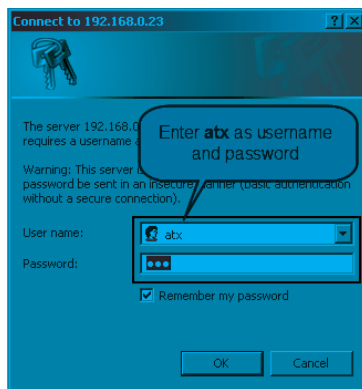

Figure 12-14: Login
2. When the login screen appears, enter **atx** for both the Username and Password, see Figure 12-14.